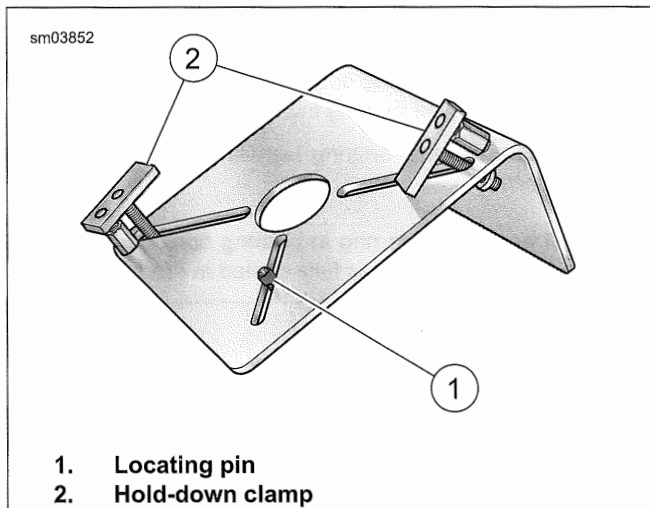

Figure 4-71. Flywheel Holding Fixture
1. See Figure 4-71. Secure flywheel assembly in FLYWHEEL SUPPORT FIXTURE (PART NUMBER: HD-44358).
- e. Secure flywheel with hold-down clamps (2).